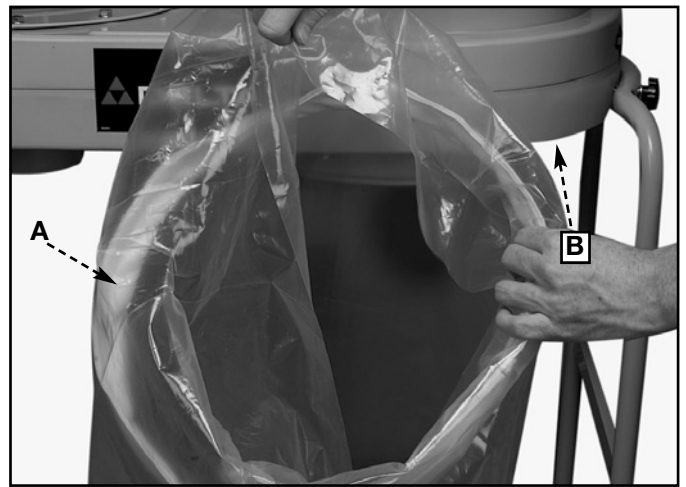
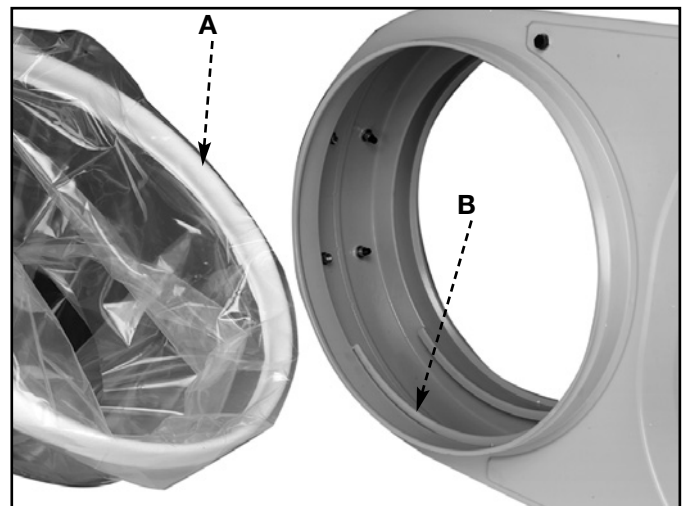

Fig. 8
Fig. 9
1. Take cloth-covered bag retainer ring (A) Fig. 8 and place it inside opening of clear plastic dust collection bag. Fold about 6 inches of the bag down around the retainer ring.
2. Place bag in large hole (B) Fig. 8 in motor/blower assembly and fit retainer ring (A) Fig. 8 and (A) Fig. 9 into bottom groove (B) Fig. 9. It will be necessary to bend and fold the ring to fit it into place.